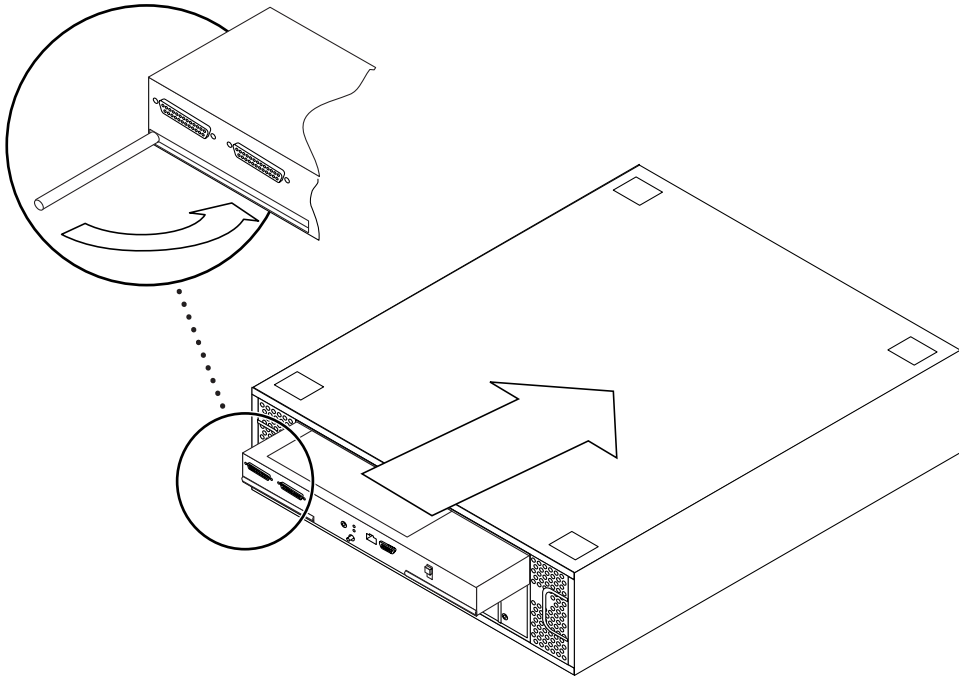

FIGURE 4-7 Installing the Controller Board
1. Slide the replacement controller board into the slot in the chassis (FIGURE 4-7). The top of the controller board has rails that fit into guide hooks in the chassis.
- 3. Push both handles inward until they are flush with the controller board (FIGURE 4-7).**